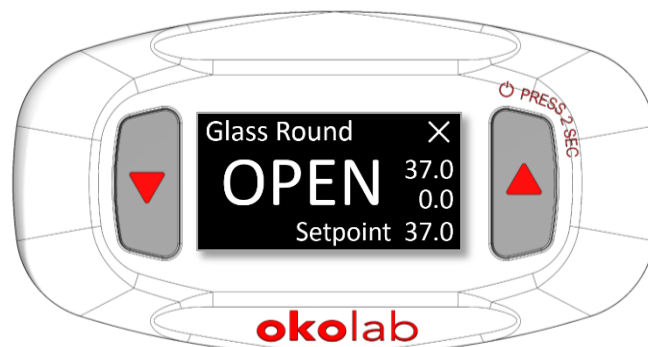

Figure 7. Home page with no device connected.
**Note** ► If no device is connected, the display shows OPEN, see Figure 7.